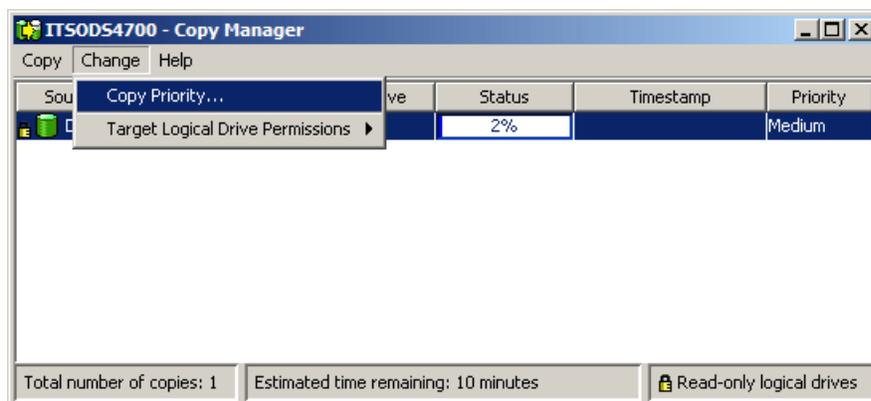

Figure 9-15 Select Copy Priority from Copy Manager
3. Select **Change** → **Copy Priority** from the pull-down menu option or the right-mouse pop-up menu (Figure 9-15).